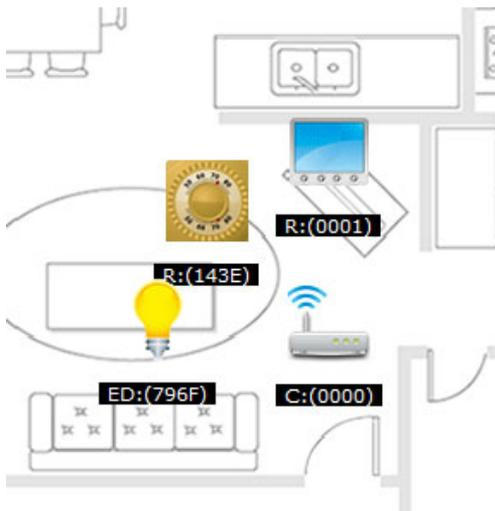

Figure 11. LoadControl Joined the Network as a New Node
- Wait until the node is detected in the ZeD GUI where it appears as a new icon as shown in Figure 11.